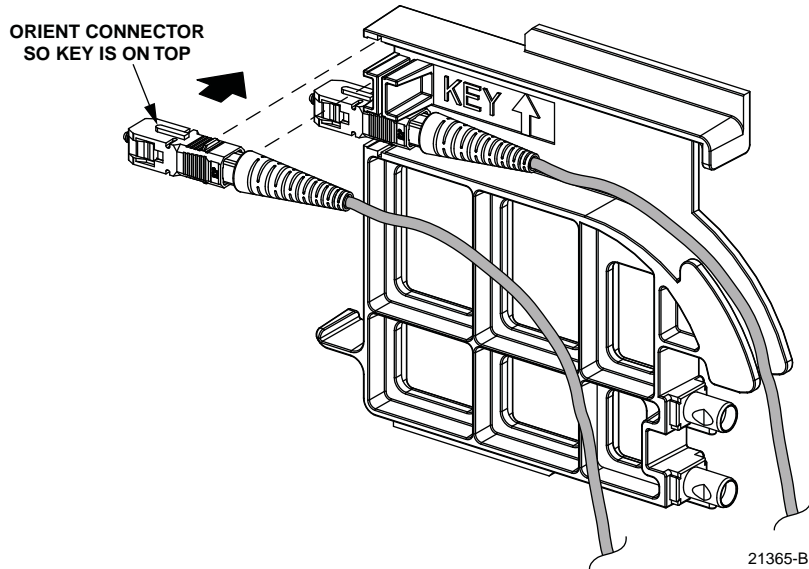

Figure 33. Installing Patch Cord Connector in Dust Cap Assembly
8. Install the patch cord connector in the dust cap assembly as shown in Figure 33.